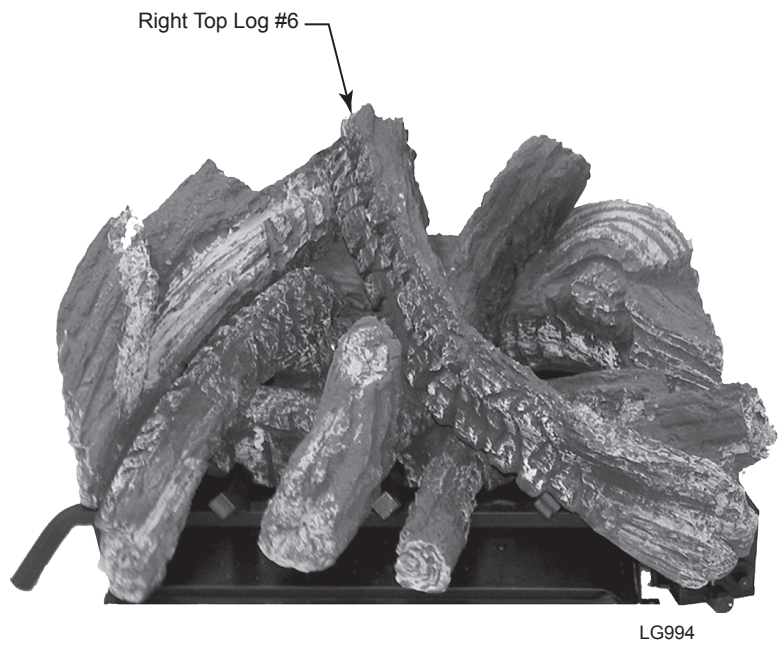

Figure 33
- 6. Rest right top log (#6) on center crossover log and front of grate. Figure 33